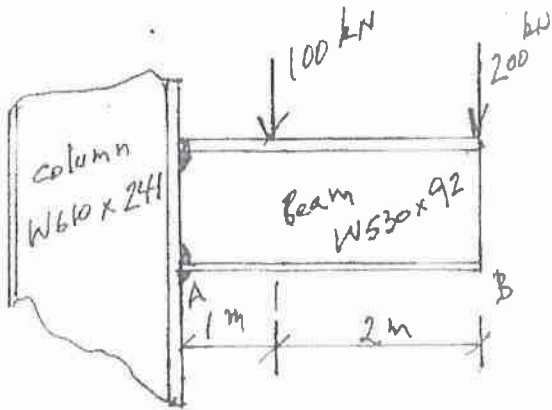

FIG. A1
- A1. Figure A1 shows a loaded cantilevered beam AB, W530 x 92 of G40.21 350W. It is to be welded to the flange of a steel column, W610 x 241, of G40.21 350 W. Design a welded connection at A to transfer the required factored moment and shear.